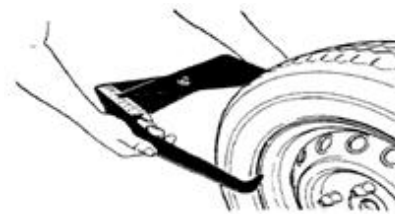

Fig.2
- set “b” value: set nominal diameter “b” marked on the wheel or use the width gauge to measure the value of “b” as Fig.2, then press  and  and  to set manually.